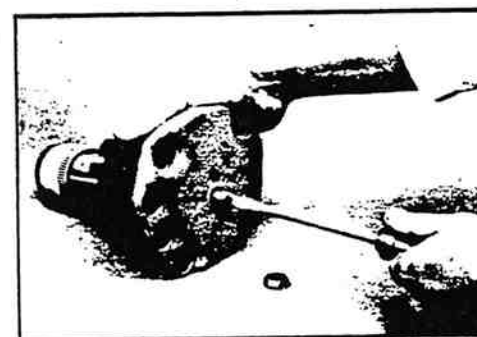

Figure 11-91. Setting Adjusting Screw.
41. Apply a generous amount of clean grease to the short bearing area of the sector shaft (39), and insert the sector shaft into the side cover (42). Screw the adjusting screw into the side cover until it reaches solid height. Then, back out the adjusting screw one turn, so that the side cover rotates freely on the sector shaft (figure 11-91).
42. Assemble the jam nut (53) onto the adjusting screw (40) a few threads. Final adjustment will be made later.